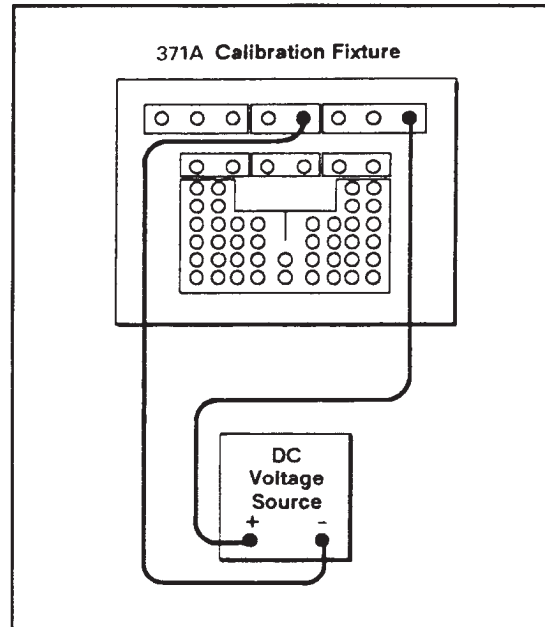

Figure 4-21. Setup for determining cursor measurement variation.
1. Connect long patch cords between the Calibration Fixture and the voltage source as shown in Figure 4-21.